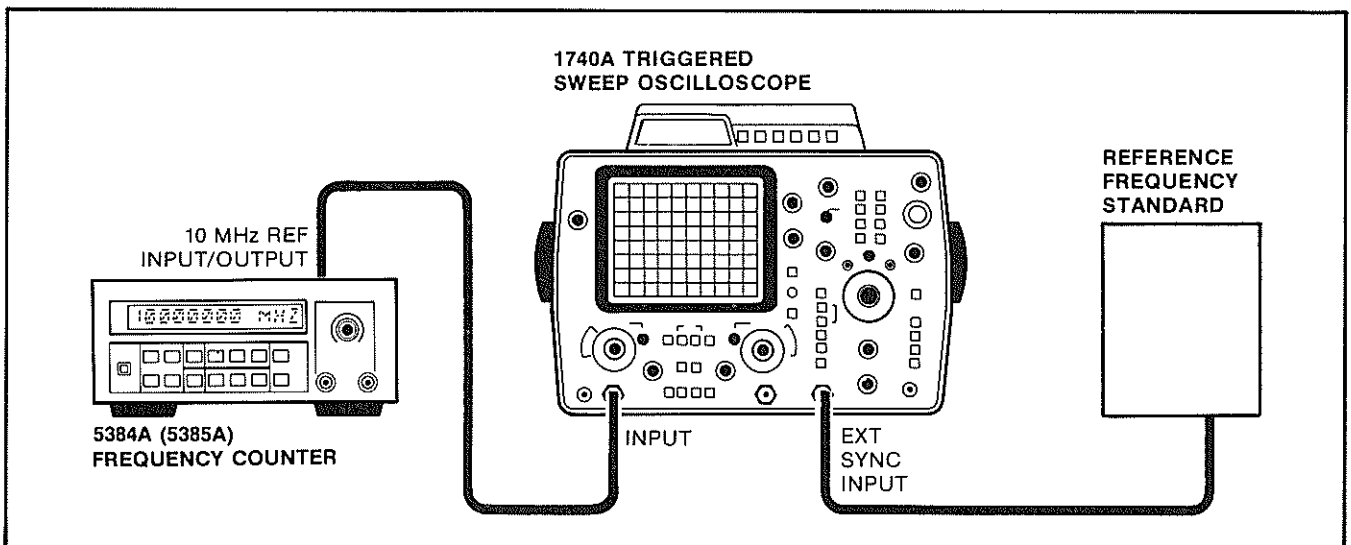

Figure 5-7. TCXO Adjustment Test Setup.
a. Connect a house standard (reference frequency) to the external SYNC input of a 1740A oscilloscope as shown in Figure 5-7. Set the 1740A oscilloscope to External SYNC.
b. Connect the 5384A/5385A rear panel 10 MHz REFERENCE IN/OUTPUT to the channel A input of the 1740A oscilloscope as shown in Figure 5-7.